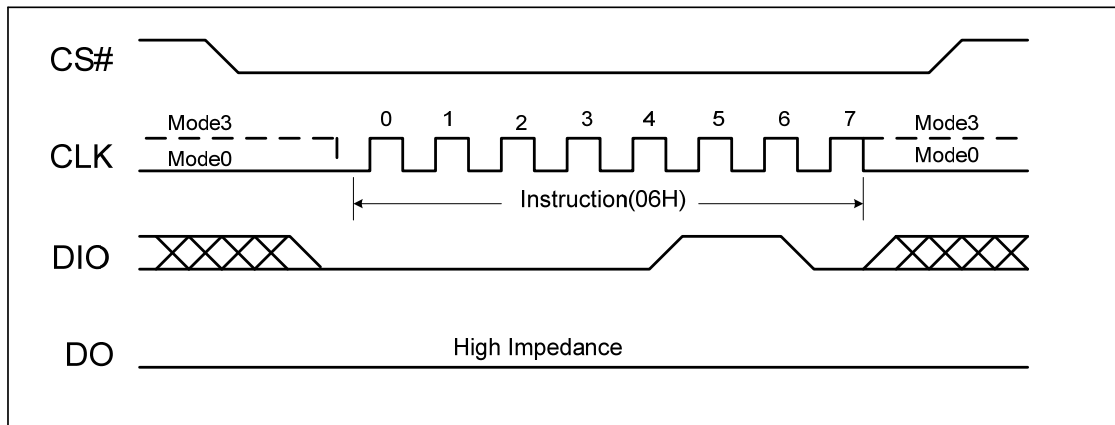

Figure 7, Write Enable Instruction Sequence Diagram
Instructions vary in length from a single byte to several bytes and may be followed by address bytes, data bytes, dummy bytes (don't care), and in some cases, a combination. Instructions are completed with the rising edge of edge CS#. Clock relative timing diagrams for each instruction are included in figures 7 through 24. All read instructions can be completed after any clocked bit. However, all instructions that Write, Program or Erase must complete on a byte boundary (CS driven high after a full 8-bits have been clocked) otherwise the instruction will be terminated. This feature further protects the device from inadvertent writes. Additionally, while the memory is being programmed or erased, or when the Status Register is being written, all instructions except for Read Status Register will be ignored until the program or erase cycle has completed.
The Write Enable instruction (Figure 7) sets the Write Enable Latch (WEL) bit in the Status Register to a 1. The WEL bit must be set prior to every Page Program, Sector Erase, Block Erase, Chip Erase and Write Status Register instruction. The Write Enable instruction is entered by driving CS# low, shifting the instruction code “06h” into the Data Input (DI) pin on the rising edge of CLK, and then driving CS# high.